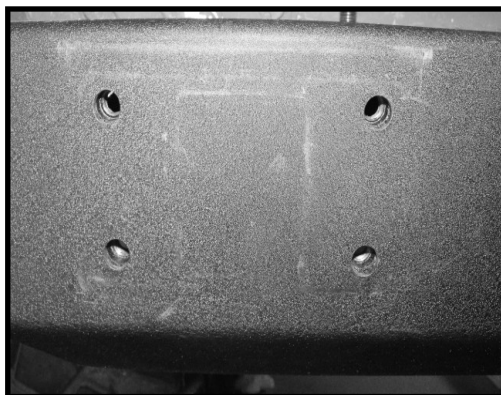

Figure 17.
12. Place the bumper over the tops of the sub-frames, and visually line up the holes of the bumper and sub-frames (Figure 17).